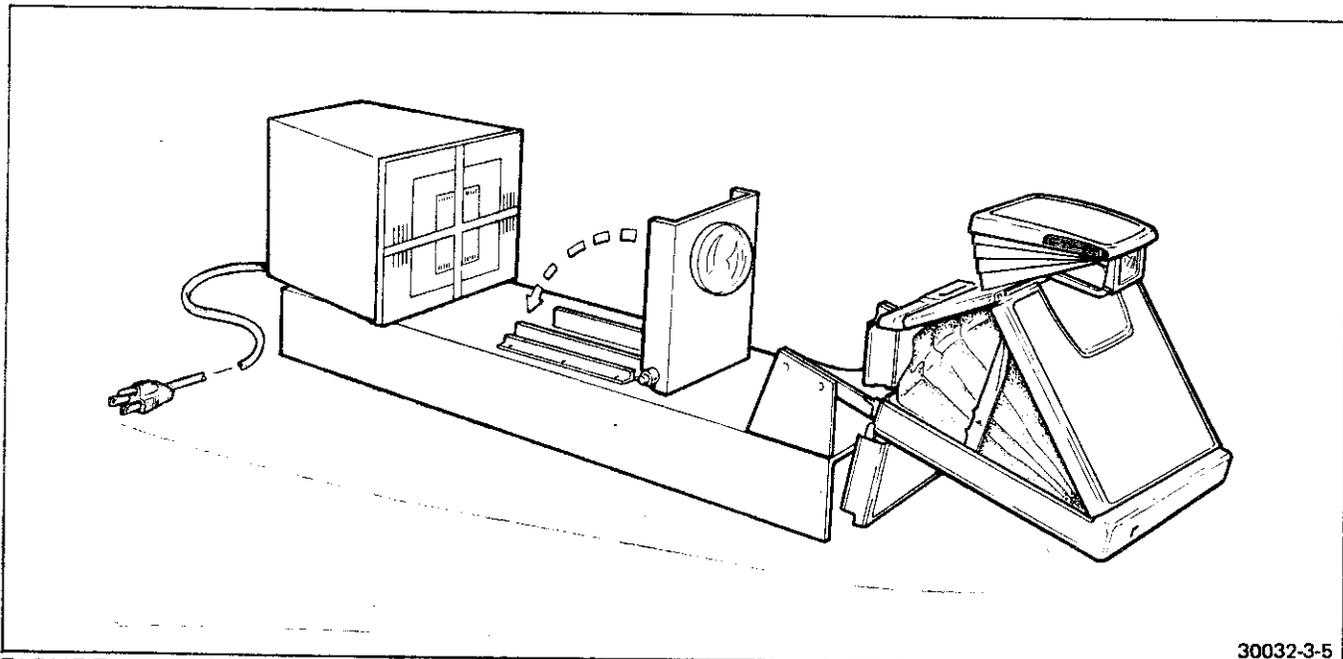

FIGURE 3-5 COLLIMATOR
1. Use the SX-70 Collimator. (Tool No. 321564) (Figure 3-5). This instrument incorporates a rear-illuminated focusing target so that no additional equipment is needed. Turn on the collimator light source.